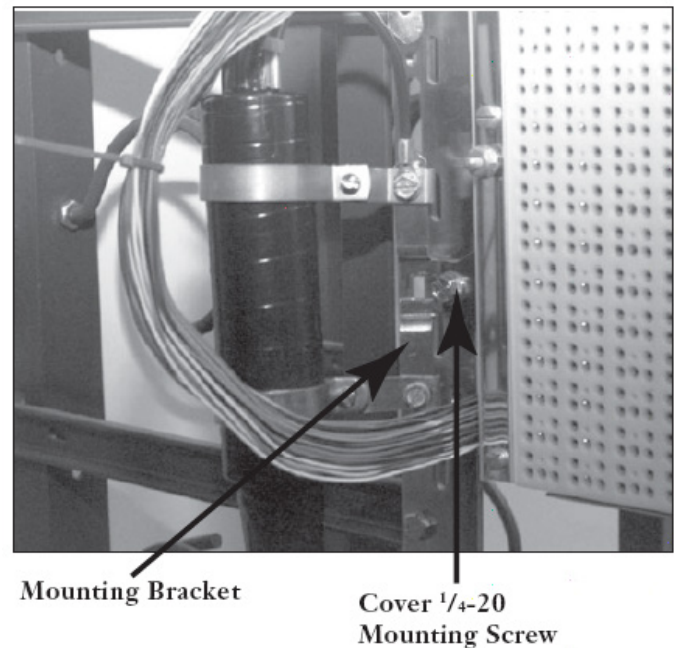

Figure 7
6.2.2 Separate, identify, and mark the four 25-pair color binder groups of the cable stub. To allow for a dress loop, tie each binder group with a cable tie approximately 9 inches (228.6mm) from the moisture dam plug (Figure 7). This provides a strain-relief for the wires and provides an additional length of wire if repair becomes necessary.